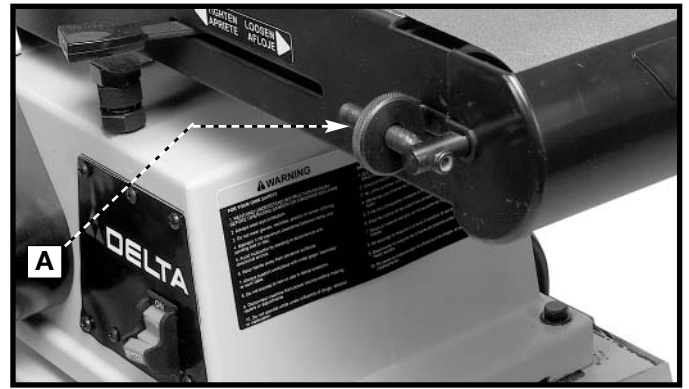

Fig. 18
2. If the sanding belt moves toward the disc, turn the tracking knob (A) Fig. 18 counterclockwise 1/4 turn.
3. If the sanding belt moves away from the disc, turn the tracking knob (A) Fig. 18 clockwise 1/4 turn.